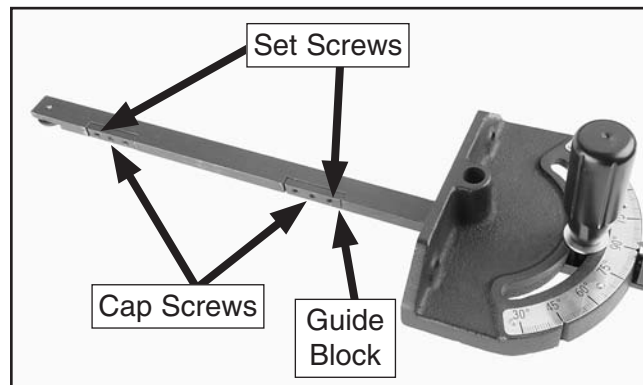

Figure 125. Screws for adjusting miter bar in miter slot.
1. Loosen the cap screw on each guide block (**Figure 125**), adjust the set screws as needed, then tighten the cap screw.